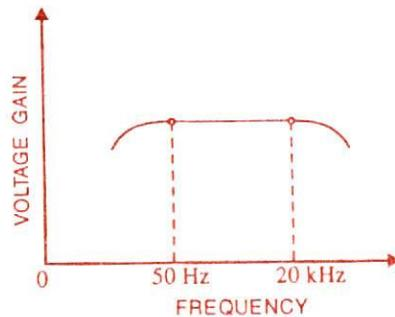

Fig. 13.8
**Frequency response.** Fig.13.8 shows the frequency response of a typical RC coupled amplifier. It is clear that voltage gain drops off at low (< 50 Hz) and high (> 20 kHz) frequencies whereas it is uniform over *mid-frequency* range (50 Hz to 20 kHz). This behaviour of the amplifier is briefly explained below :